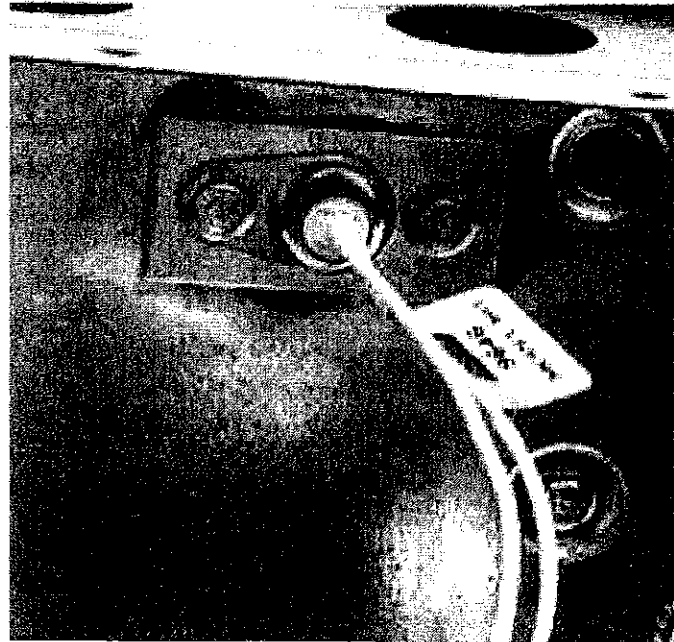

FIGURE 6: *Proper Installation of Igniter & Bracket*
- Carefully install the new bracket and igniter on the burner box making sure that the gasket is between the bottom of the burner box and the new igniter bracket. Using the two existing mounting screws, fasten both the igniter and bracket to the burner box. The proper installation of the new igniter and bracket can be seen in Figure 6.